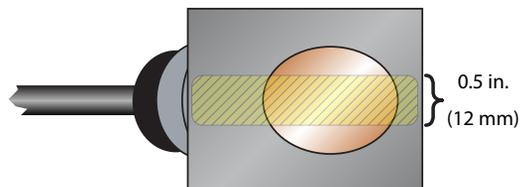

Figure 10: Application of couplant
3. Place a single bead of couplant, approximately 1/2 inch (12 mm) thick, on the flat face of the transducer. See Figure 10. Couplant is provided with the transducers. Generally, a silicone-based grease is used as an acoustic couplant, but any good quality grease-like substance that is rated to not flow or shrink at the operating temperature of the pipe is typically acceptable.
5. Place a single bead of couplant, approximately 1/2 inch (12 mm) thick, on the flat face of the transducers. See Figure 10 on page 7.
3. Place a single bead of couplant, approximately 1/2 inch (12 mm) thick, on the flat face of the transducers. See Figure 10 on page 7.
10. Place a single bead of couplant, approximately 1/2 inch (12 mm) thick, on the flat face of the transducer. See Figure 10 on page 7. Couplant is provided with the transducers. Generally, a silicone-based grease is used as an acoustic couplant, but any good quality grease-like substance that is rated to not flow or shrink at the operating temperature of the pipe is typically acceptable.